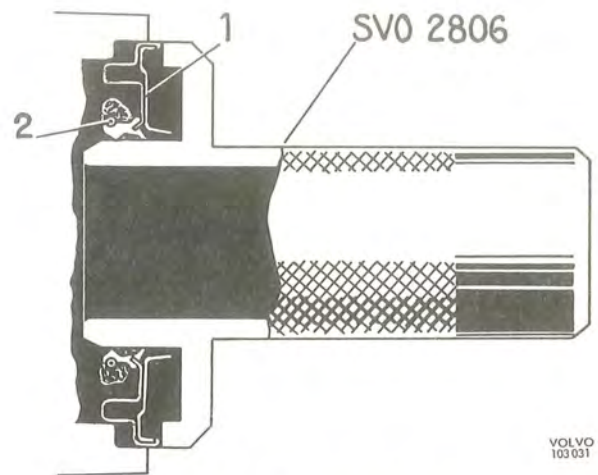

Fig. 4-73. Fitting the oil seal
3. Fit the new oil seal with tool SVO 2806. When fitting the oil seal, lubricate the seal lips with grease. At the same time apply a layer of grease to the spring coil. See Fig. 4-73. This last-mentioned measure is made to prevent the spring coil from jumping out during fitting.